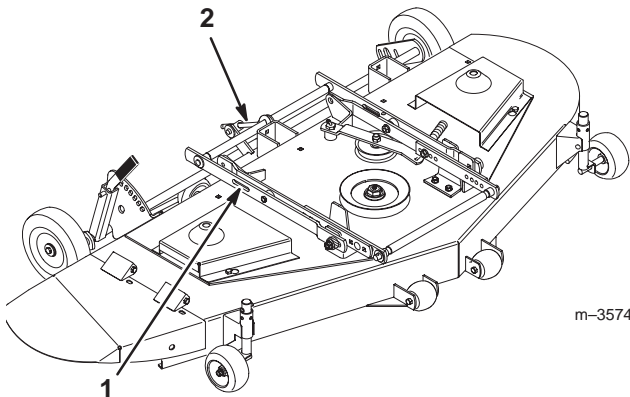

Figure 9
2. Position the mower so that the slots in the side of each of the mower mounting brackets (Fig. 9) are aligned directly below the tractor attachment lift arm.